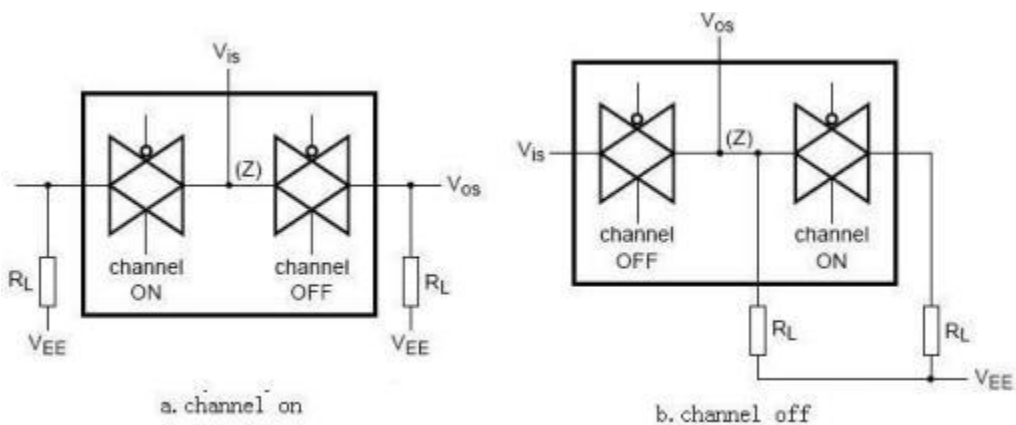

Figure 11. Inter channel Crosstalk
- [2]  $R_L=1k\Omega$ ;  $20\log V_{os}/V_{is}=-50dB$ , see Figure 11.